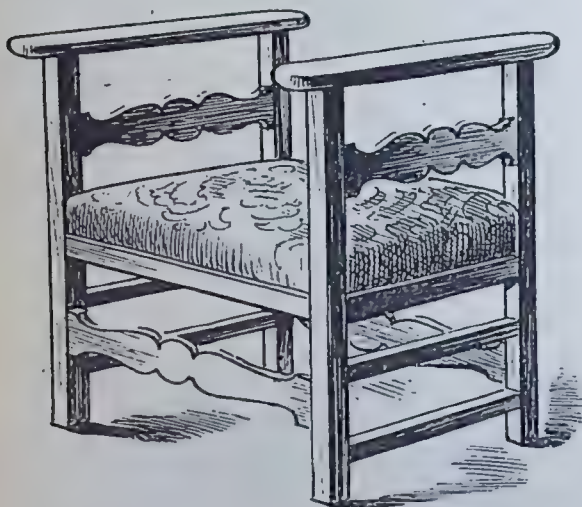

FIG. 1.—UPHOLSTERED NURSERY CHAIR—WINDOW SEAT TYPE.
The illustrations represent typical examples of overlays. Fig. 1 is less suitable for wood than for xylonite or metal, but Fig. 2 could be used for any material. The tints indicate those parts which might with advantage be underlaid.
DIMENSIONS.—General dimensions for Fig. 1, which is modelled on the window or music seat type, with two flat but comfortable arms but no back, is 18 ins. high by 15 ins. by 10 ins. In Fig. 2, as a corner chair having two backs but no arms, the height can be 2 ft., the over-all seat measurement being 12 ins. by 12 ins. Both chairs are shown with upholstered seats, but may have wood seats if preferred.
Construction of Window Seat.—Fig. 1.
LEGS (A).—Proceeding to get out the stuff for Fig. 1, four uprights or legs will be required, 1 ft. 6 ins. by 1 in. square net, or, if for withstanding strenuous use, 1½ in. square net. These